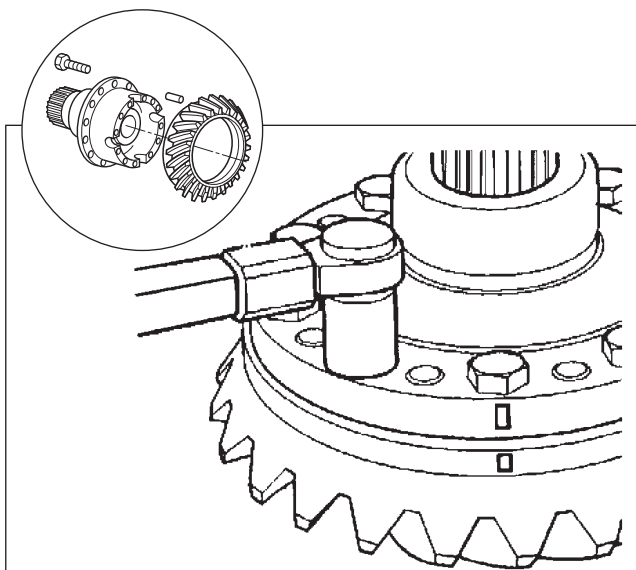

Fig. 2.38
9. Unscrew the ring gear screws to allow replacement of the ring gear. (Fig. 2.38)